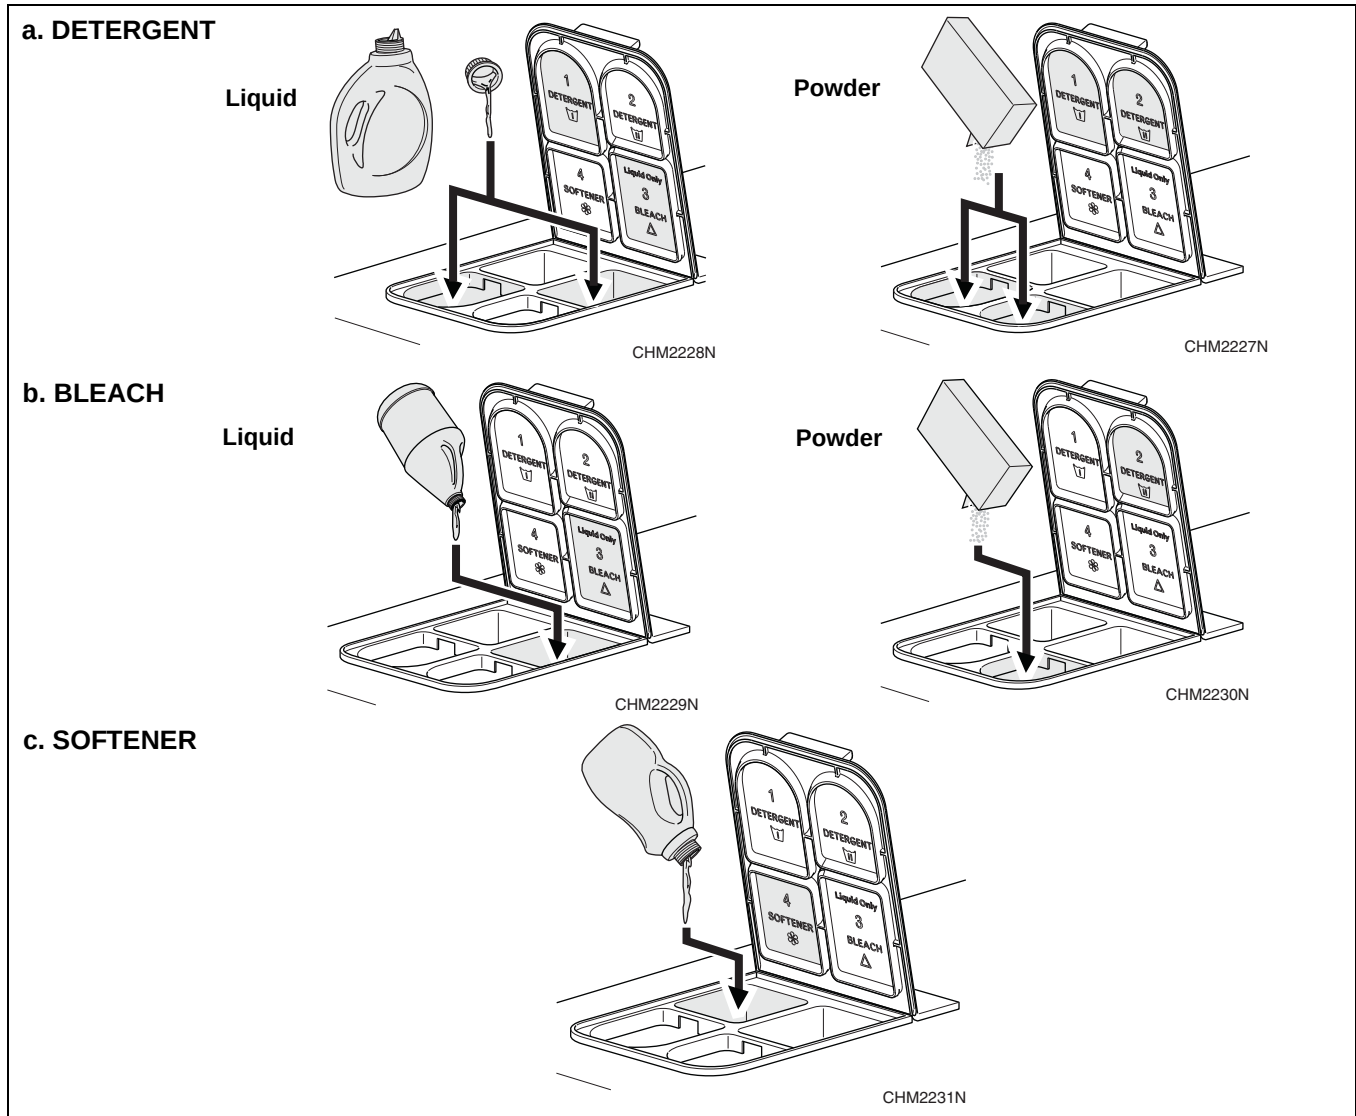

Figure 10
7. Add liquid and/or powder supplies to supply dispenser. Refer to *Figure 10*.